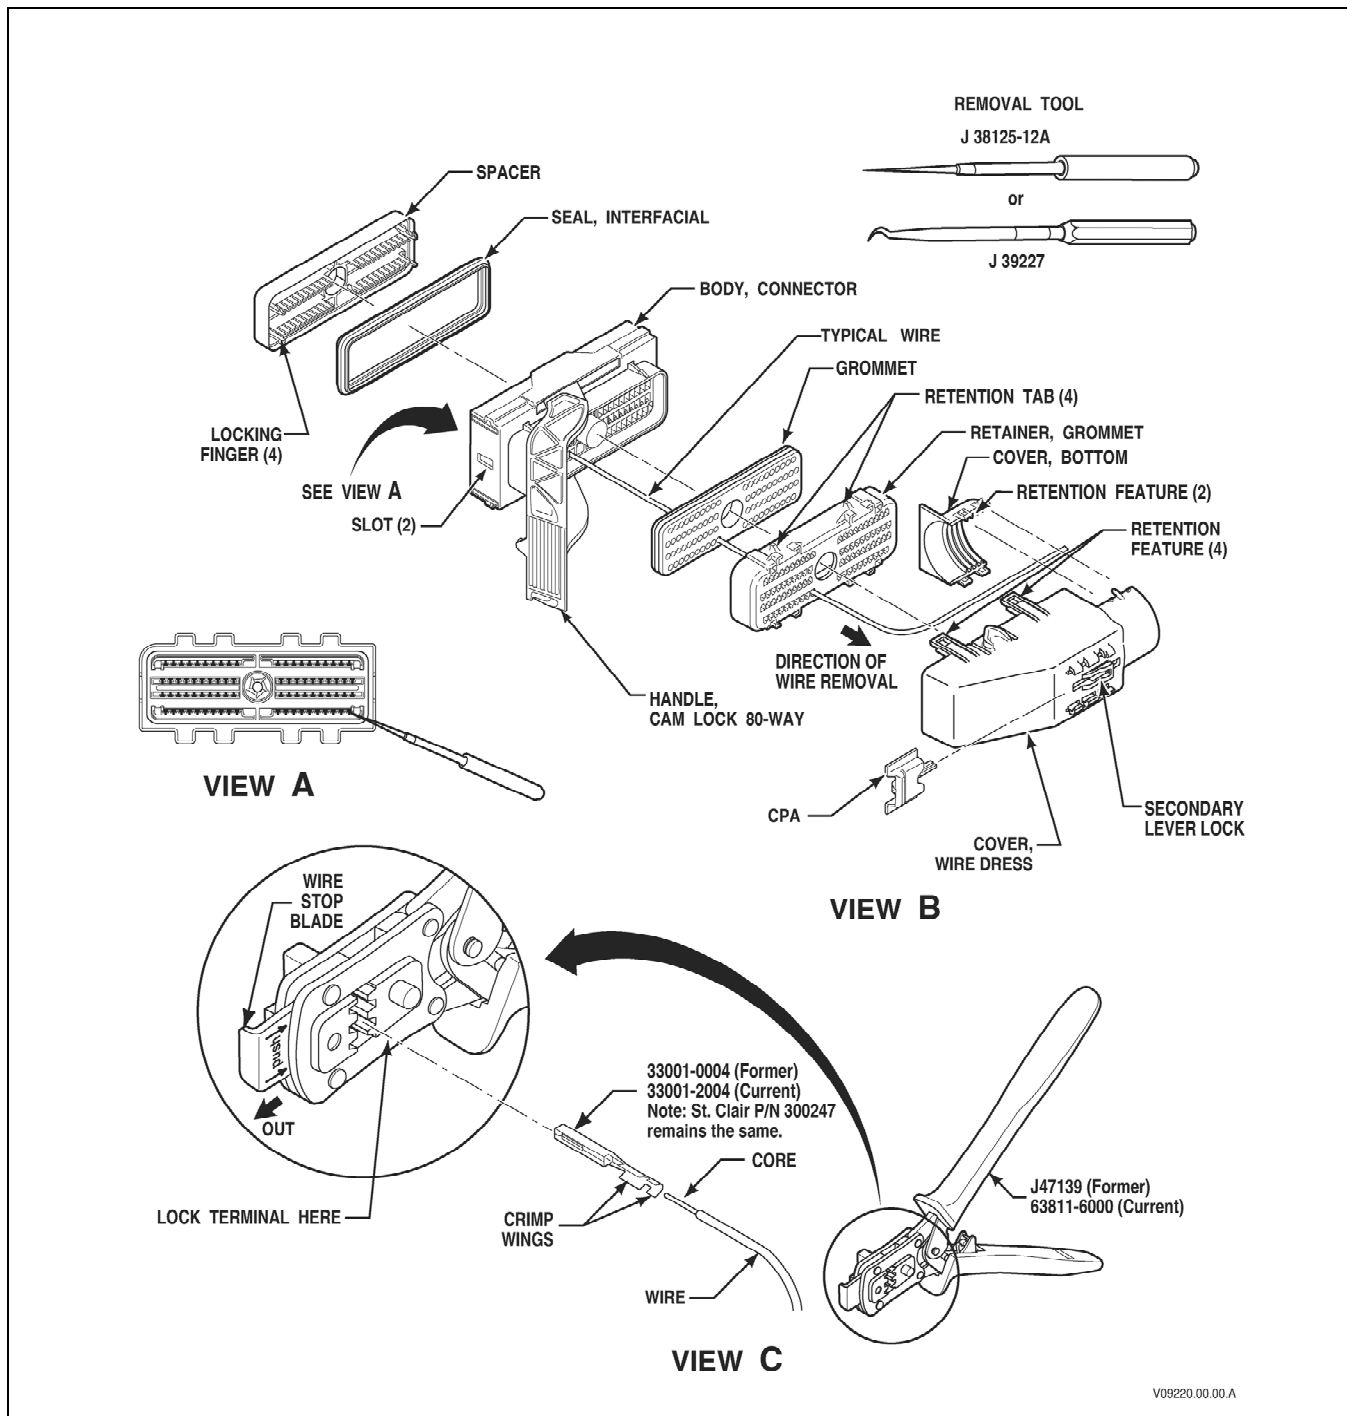
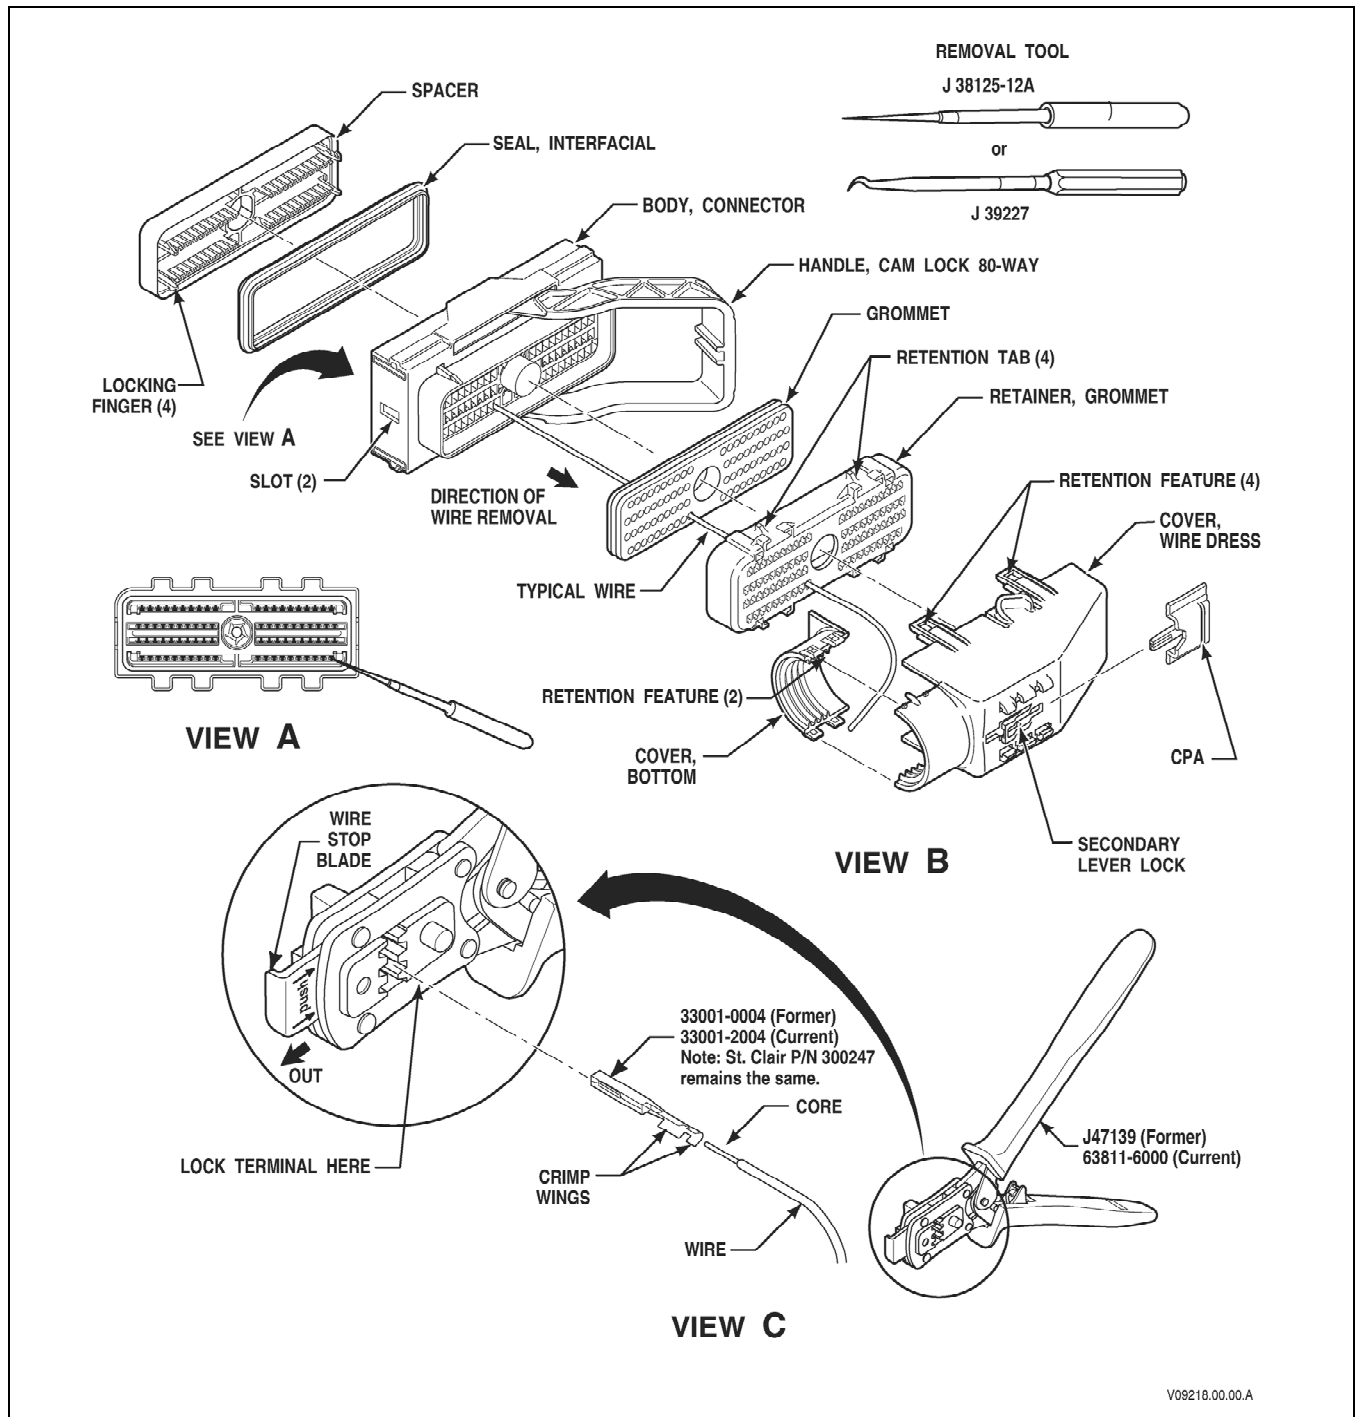

Figure G-4. AFL 80F Cam-Assist, Direction 'A' TCM Connector
Figure G-5. AFL 80F Cam-Assist, Direction 'B' TCM Connector
A. Connector, Assembly 80F Cam-Assist, 'A' Direction (Figure G-4).
B. Connector, Assembly 80F Cam-Assist, 'B' Direction (Figure G-5).
7. Insert the metal blade of J-38125-12A or J-39227 remover tool into the small hole in the front of the connector body above or below the desired terminal/wire lead cavity location (Figure G-4 or Figure G-5, View A).
2. Refer to Figure G-4 or Figure G-5, View C. Pull out the wire stop blade of the crimping tool so it is clear of the terminal crimp area. Place the terminal all the way into the appropriate wire size opening of the J-47139 (former) or 63811-6000 (Molex P/N, current) crimping tool until it contacts the stop and is properly oriented. Squeeze the handle enough to keep the terminal in place in the tool but not enough to compress the crimp wings.
8. Refer to Figure G-4 or Figure G-5, View B. Align the four retention features of the backshell wire dress with the four lock tabs on the grommet retainer and press the backshell wire dress onto the grommet retainer until all four retention features lock. Align the wire dress cover with the backshell wire dress and press into place until it locks on both sides.